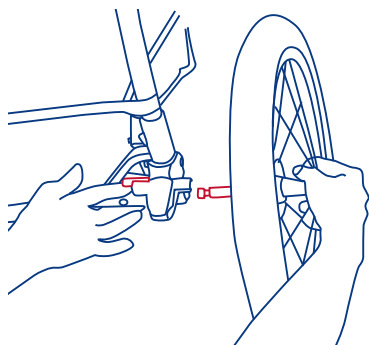

Figure 8.
- Lean the stroller forward to rest on the front wheel. To attach the rear wheels, push each wheel's axle into the plastic corner fitting as shown in figure 8. Lift upward on the plastic lever on the inside of the corner fitting as you push the axle into corner fitting. When the wheel will not go on any farther, release the lever. Check that the wheel has locked into the corner fitting by pulling on the wheel. If not locked, lift upward on the lever, push the wheel on farther and release lever. Ensure that the wheels are firmly locked into place. Do Not use the stroller if the wheels are not locked into place, but rather contact our customer service department immediately at (800) 328-7363, between the hours of 8:00am and 4:30pm PCT, for assistance